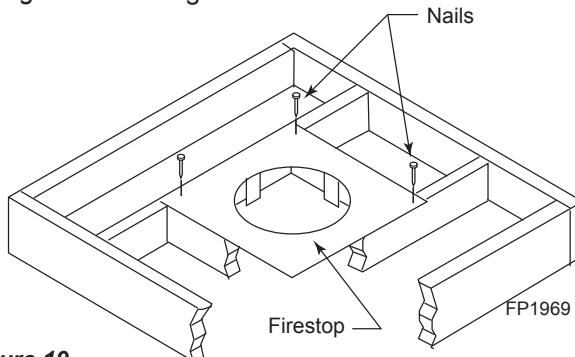
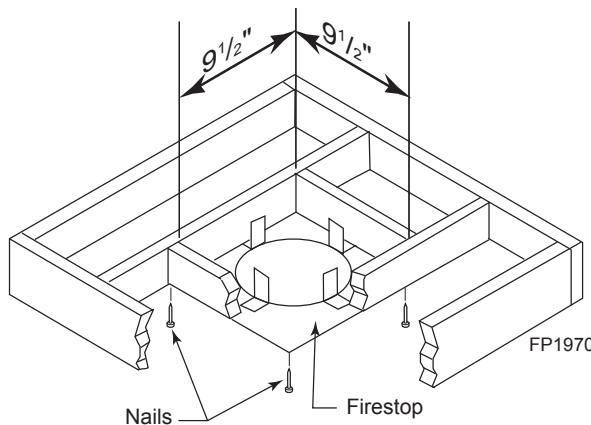

Figure 19 -
Figure 20 -
- Cut a $9\frac{1}{2}$ " (241 mm) square hole in the ceiling using the locating hole as a center point. The opening should be framed to $9\frac{1}{2}$ " x $9\frac{1}{2}$ " (241 x 241 mm) inside dimensions as shown in *Figure 20* using framing lumber the same size as the ceiling joist. If the area above the ceiling is an insulated ceiling or a room, nail firestop from the top side. This prevents loose insulation from falling into the required clearance space. *Figure 19*. Otherwise, install firestop below the framed hole. The firestop should be installed with no less than three nails per side. *Figure 20*.